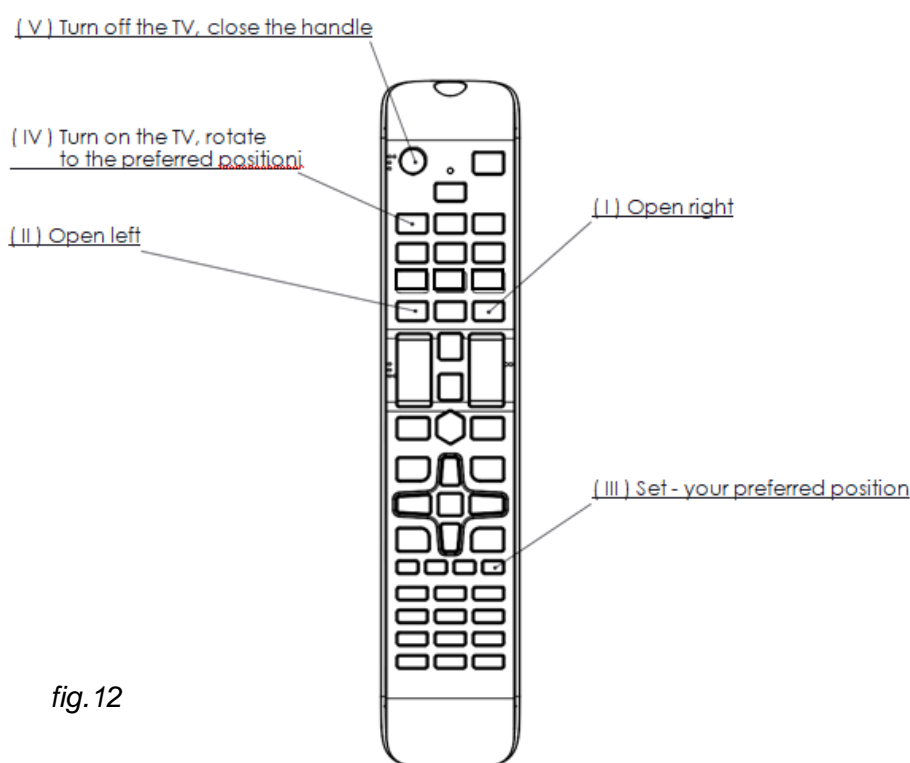

fig. 12
**NOTE:** Remember that these buttons will also be active for device supported until now by the remote. The mount cannot be operated by more than one remote control. remotes (fig. 12 – example settings).